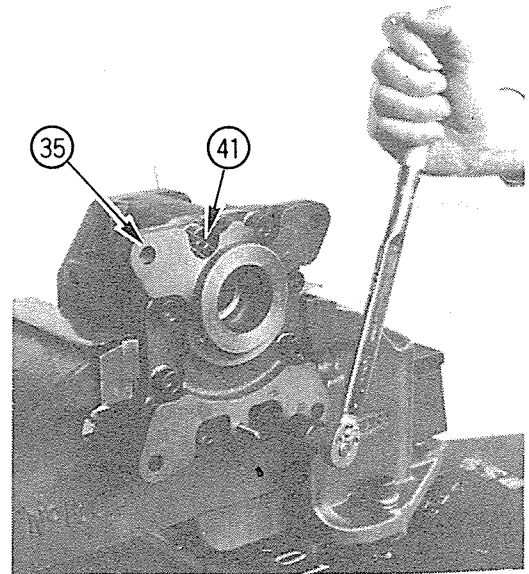

Fig. 8
Removing socket bolt (41) as shown in Fig. 8, detach front cover (35) while tapping with a wooden mallet and draw pedestals (31) and (32) and wear plate (37) out in that direction.